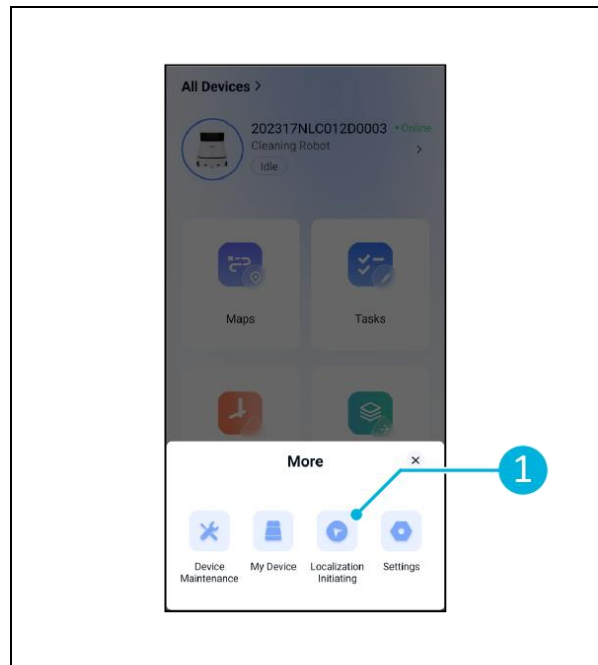

Figure 27
3. Select [\[Localization initiating\]](#) (Figure 27, pos. 1).